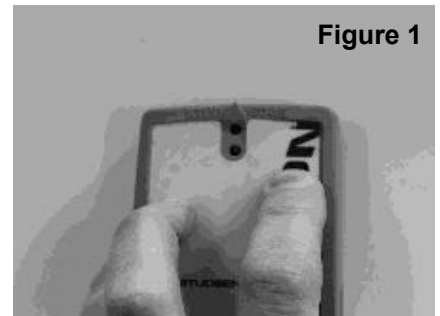

Figure 2
- c. **MARK IT (Fig. 2)** Once you have found your beam, mark a small dot and place the bracket over what you can determine is the center of the beam and mark with a pencil other 3 holes of the bracket at that beam center location